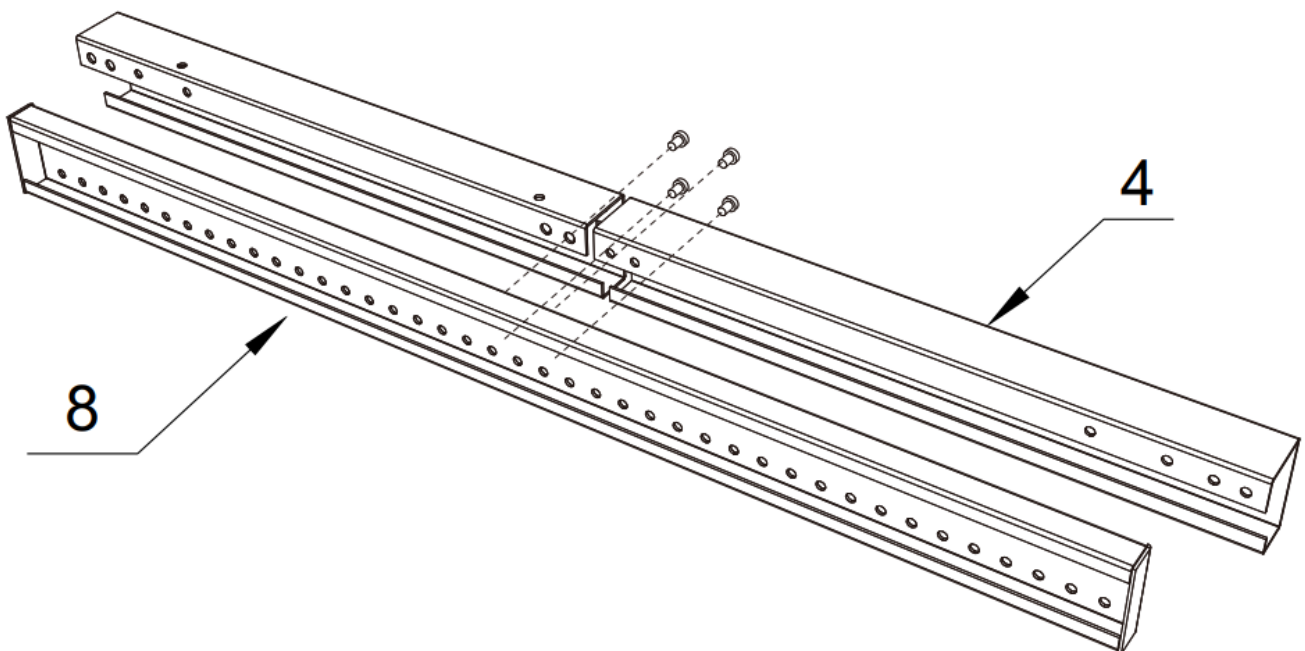

Figure 3
4. Insert M5*10 Cross head screws through into the holes in the Corner Brackets and Center Sections. (Figure 3)